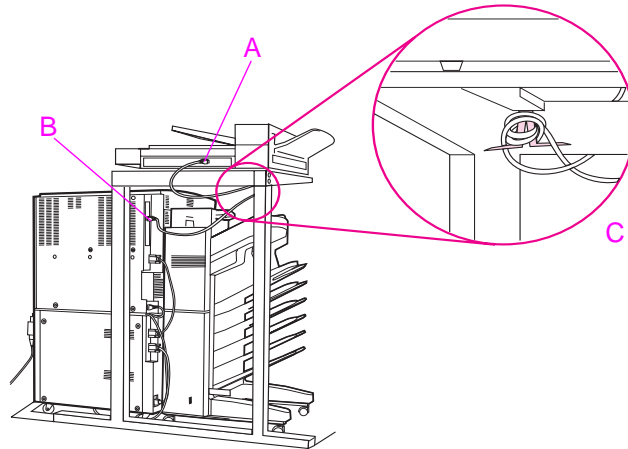

Figure 6-192 View with HP Digital Copy 320 Stand (preferred configuration)
- 2 Plug the other end of the Copy Connect cable into the Copy Connect EIO Board (B).
- 3 Wrap the excess cable as shown in figure 6-192(C).